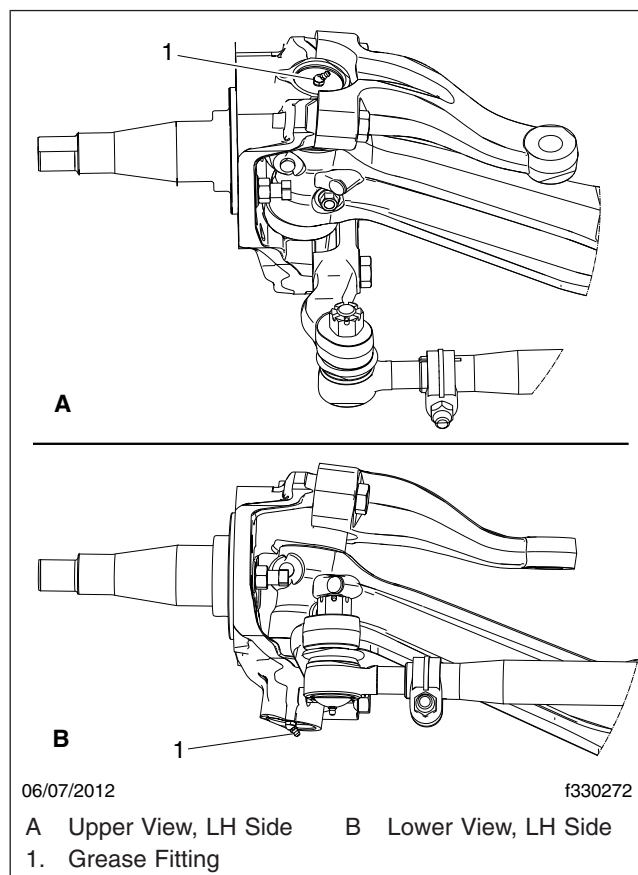
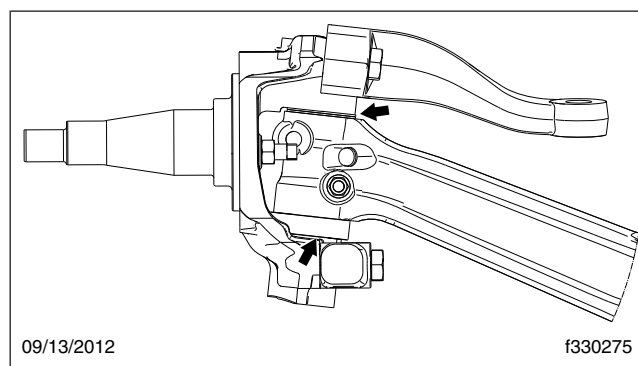

Fig. 1, Grease Fittings, Detroit Axles
Fig. 2, Kingpin Grease Exit Points, Detroit Axles
3. Apply multipurpose chassis grease, NLGI Grade 1 (6% 12-hydroxy lithium stearate grease) or NLGI Grade 2 (8% 12-hydroxy lithium stearate grease), until new grease is seen at the junctions of the axle beam and knuckles. For locations of grease fittings, see Fig. 1; for grease exit points, see Fig. 2.